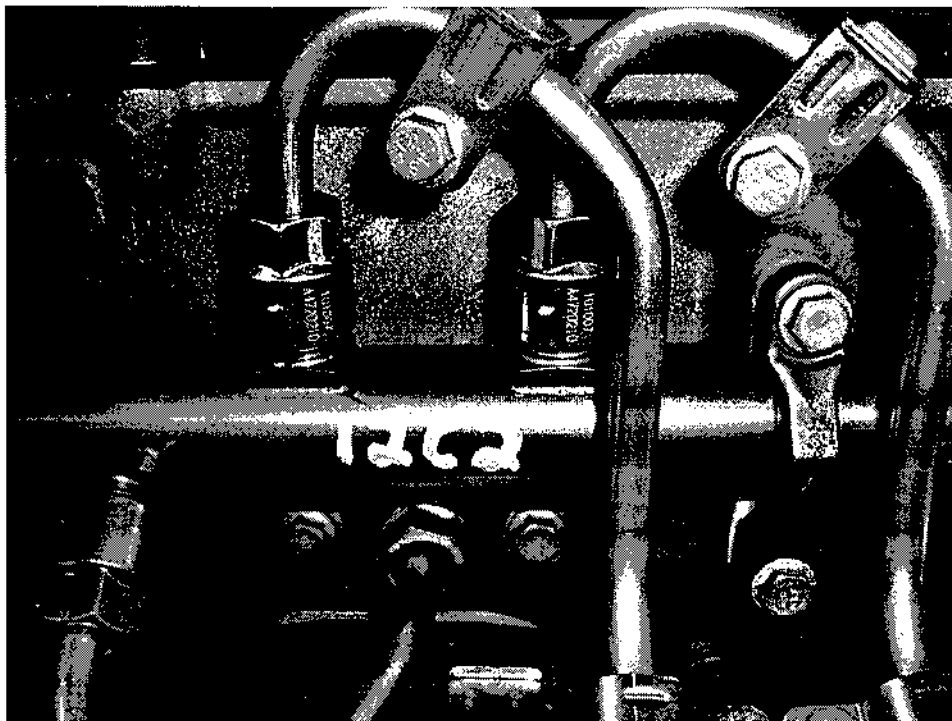

Figure 6 – 12C2 Identification on Fuel Rail.
If "12C2" is shown on a base label (Form WAR259) on the passenger-side door **OR** "12C2" is labeled on the Fuel Rail under the fuel feed line fittings (see Figure 6), no further work is necessary since the Recall has already been completed.
12. Using a paint pen, write the campaign number "12C2" on the Fuel Rail under the High Pressure Fuel Feed Line fittings. See Figure 6.